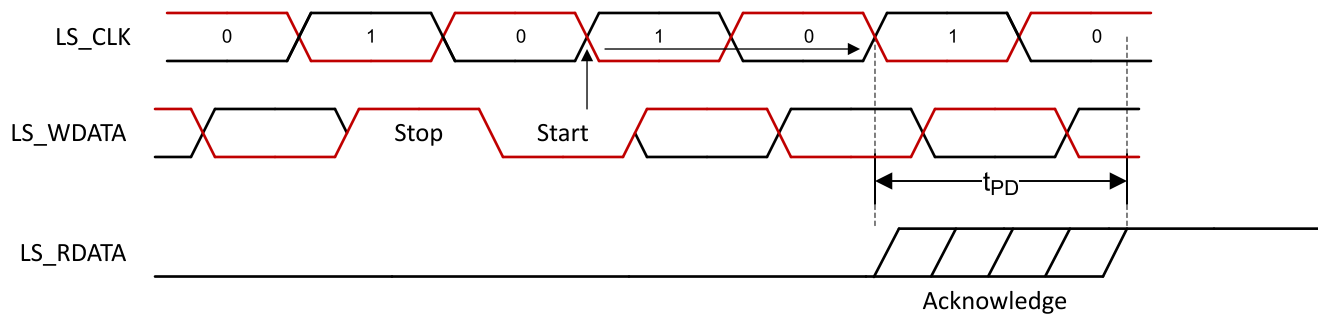
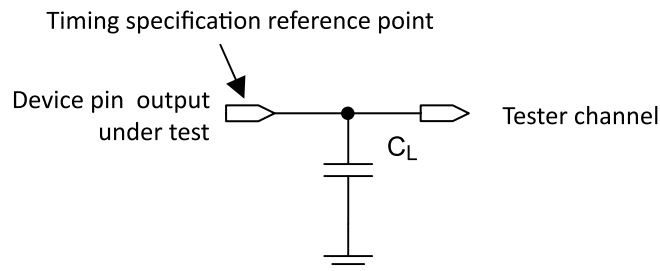

图 6-10. LPSDR Read Out
图 6-11. Test Load Circuit for Output Propagation Measurement
(1) Device electrical characteristics are over Recommended Operating Conditions unless otherwise noted.
(2) See 图 6-10 and 图 6-11